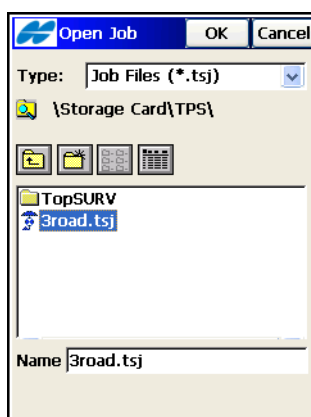
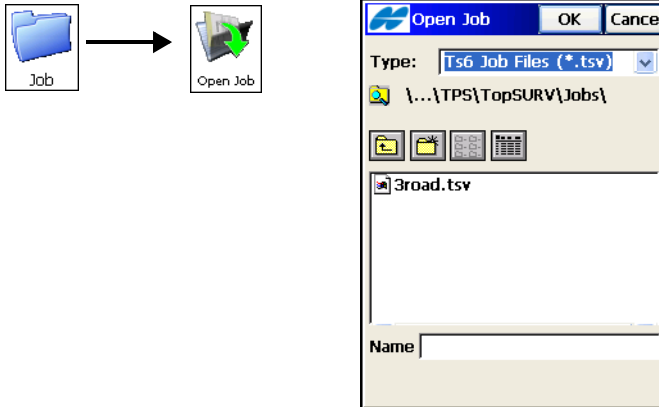

Figure 2-2. Open Existing Job
Figure 2-3. Open Old Job
- **Browse** – press to display browse directories to navigate to a desired job. Highlight the file and press **OK** to open the job from a remote directory (Figure 2-2 on page 2-2).
To open a job created in a previous version of TopSURV, click **Job ▶ Open Job** and tap the **Browse** button in the *Open Job* screen (Figure 2-2 on page 2-2). Then select the *Ts6 Job Files (\*.tsv)* type, navigate to the desired tsv job, highlight it, and press **OK** (Figure 2-3).
When within a menu option, the title bar displays the *Topcon Logo Help* Icon, the name of the open screen, and any system buttons (e.g., **OK**, **Cancel**, **Finish**) required for various operations (Figure 2-2 on page 2-2).